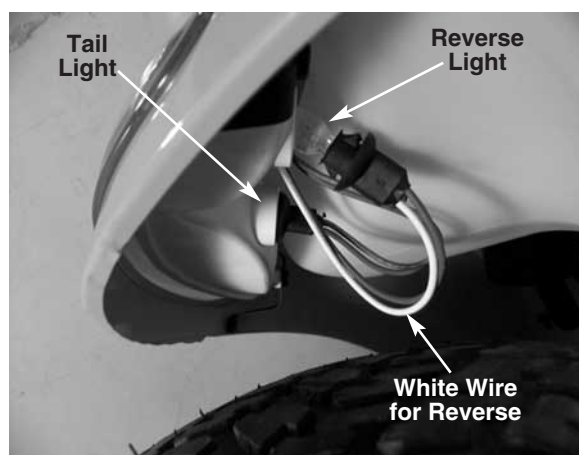

FIGURE 6.
14. Remove the tail light sockets from the tail light assemblies by pushing in on the sockets gently and twisting a 1/4 turn. See figure 6.
NOTE: When pulling the sockets out of the tail light assemblies, it is very important to make sure the light bulbs come straight out, or the light bulbs will fall into the tail light assemblies. Also, note the color of the wires for reinstallation. The white wires go to the reverse lights. See figure 6.